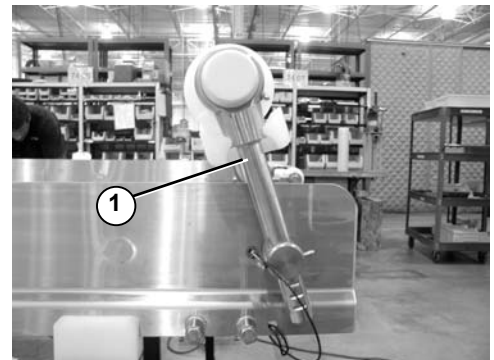

Figure 4
3. Place the idler tail (Figure 4, item 1) in the UP position.